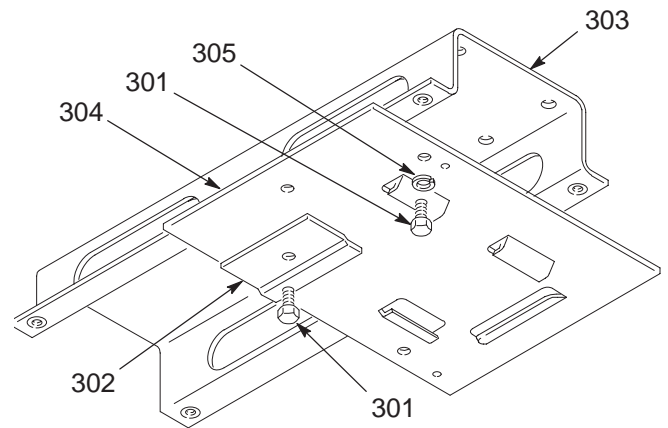

Fig. 3
2. **If you are NOT installing a hose reel enclosure,** order the Reel Mounting Base parts listed on page 31 and install the frame (303) and base plate (304) as shown in Fig. 3.